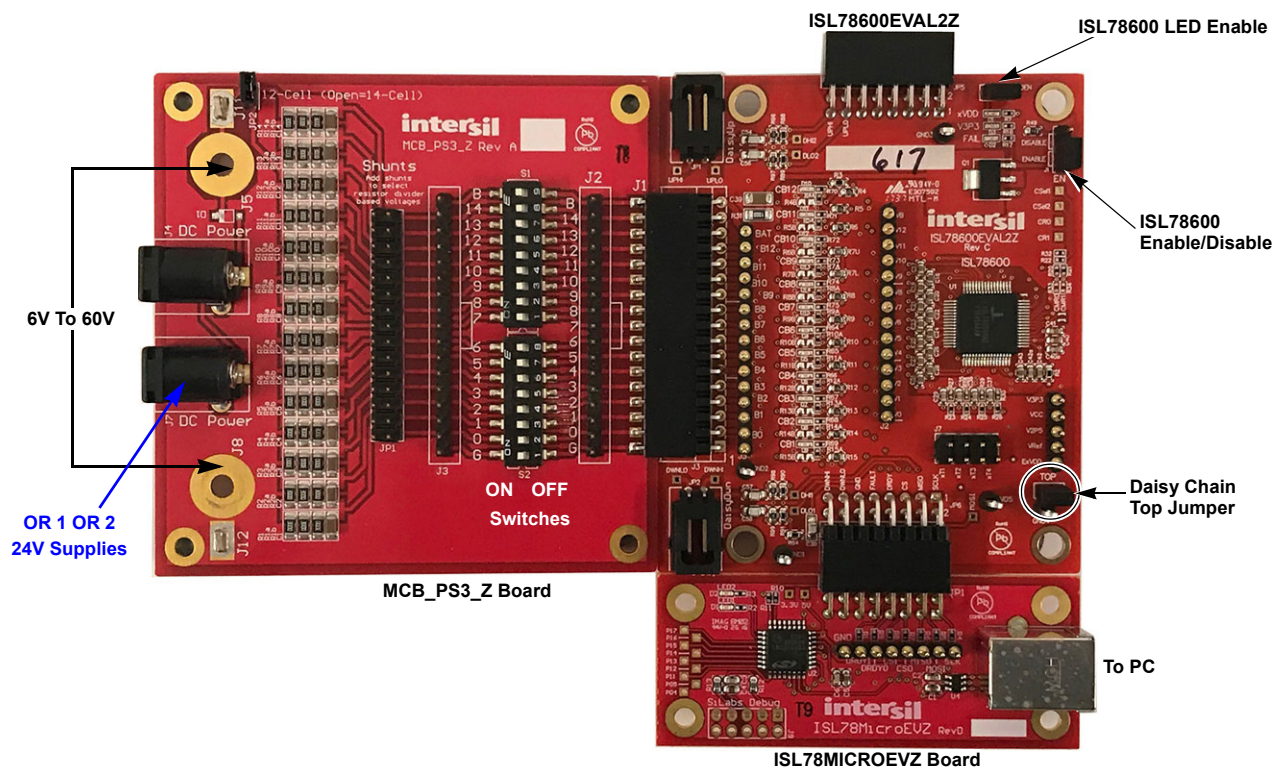

Figure 5. ISL78600EVKIT1Z Rev C Single Board Setup
- Connect the microcontroller board (ISL78MICROEVZ) connector JP1 to the ISL78600EVAL2Z board connector JP6 (see Figure 5 on page 6).